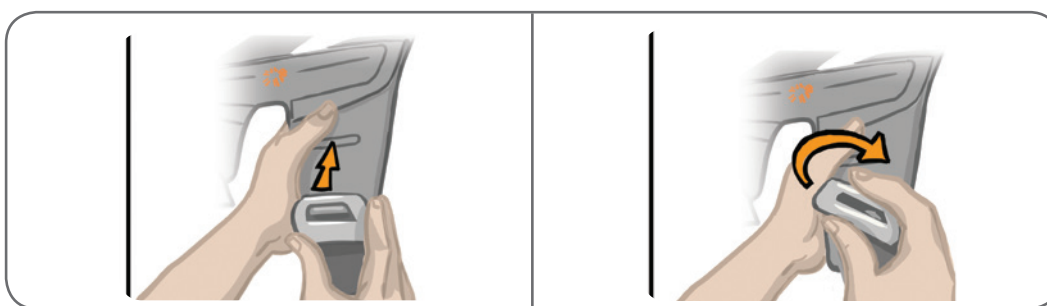

Figure 11-13: Reattaching the Thigh Straps
2. Push the strap buckle with your thumbs toward the strap (direction away from the thigh FS Cuff). See Figure 11-13. The strap buckle will snap into the thigh FS Cuff panel hook.